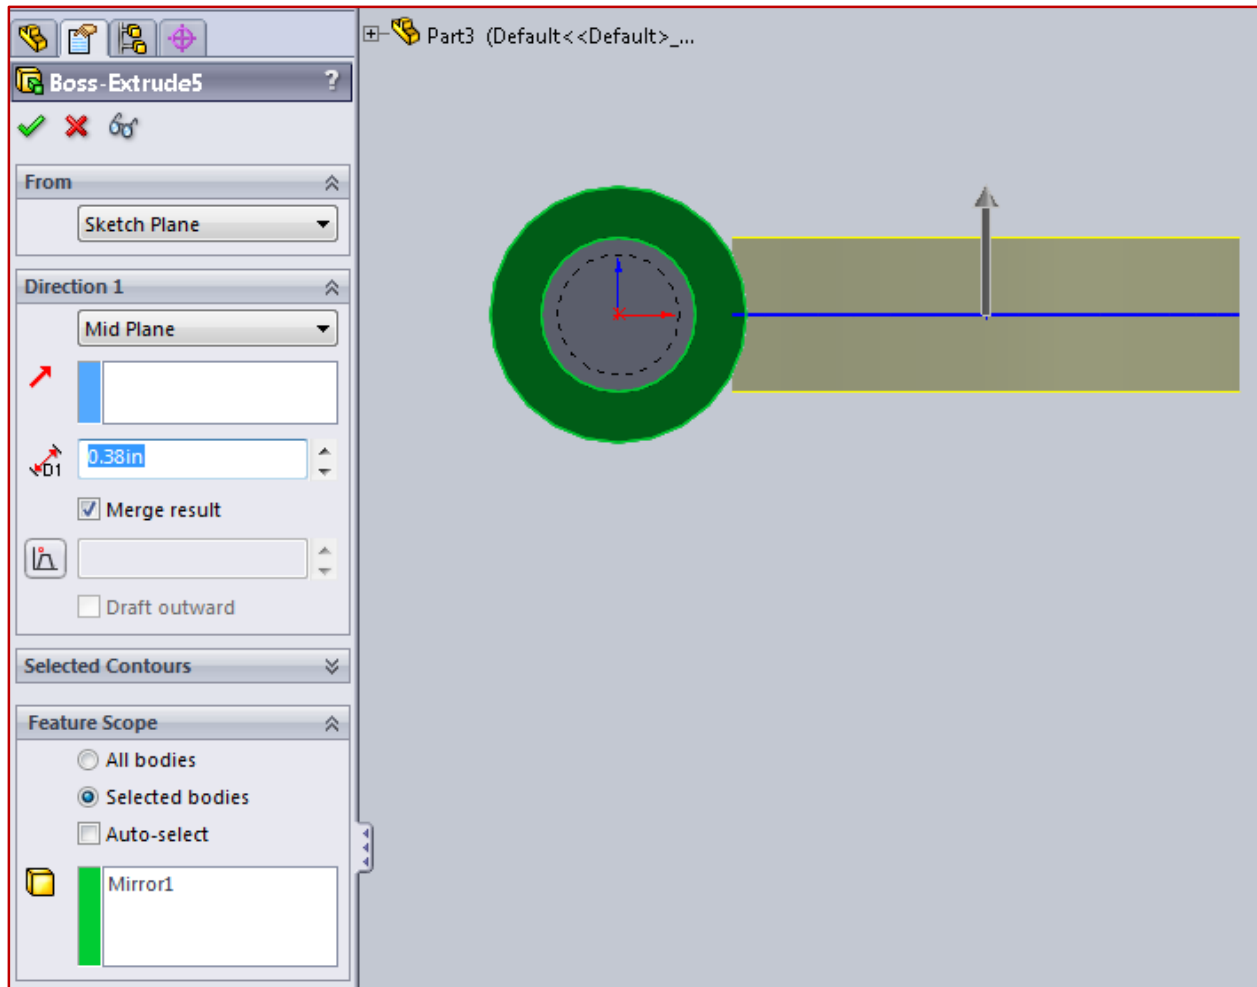

Figure 7.3 – Extruded Seat
- ✓ Extrude the circle using the **Mid Plane** option as shown in Figure 7.3. The extrusion distance is 0.38 inch.